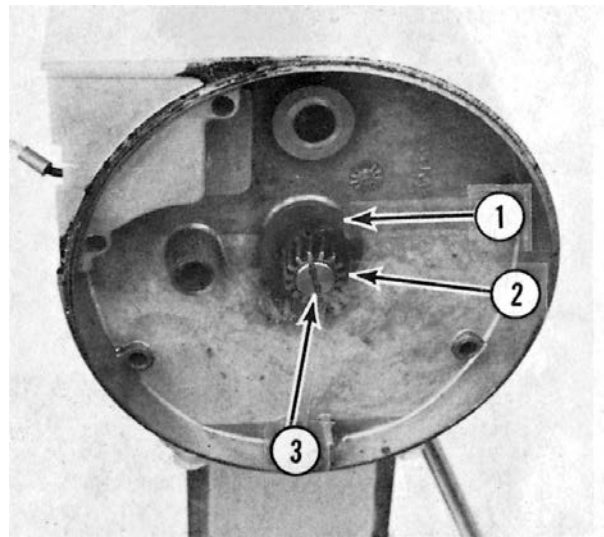

Fig. 4-6
B. Install the baffle plate (1, Fig. 4-6) and the pinion drive pin.
C. Install the pinion (2, Fig. 4-6) and the pinion retaining screw (3, Fig. 4-6).